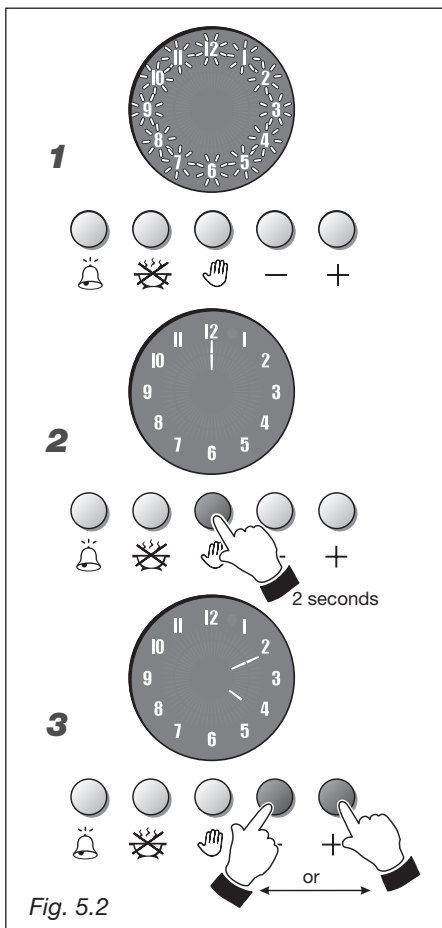

Fig. 5.2
CLOCK (fig. 5.2)
1. Fig. 5.2 - Upon immediate connection of the oven or after a power cut (black out), the numbers on the programmer display will flash.
2. Fig. 5.2 - To set the time, press button  for about one second; one hand appears on 12.
3. Fig. 5.2 - Within 7 seconds press  or  buttons to set the time of the day (hours and minutes). Seven seconds after the last selection, the seconds hand appears on the display.